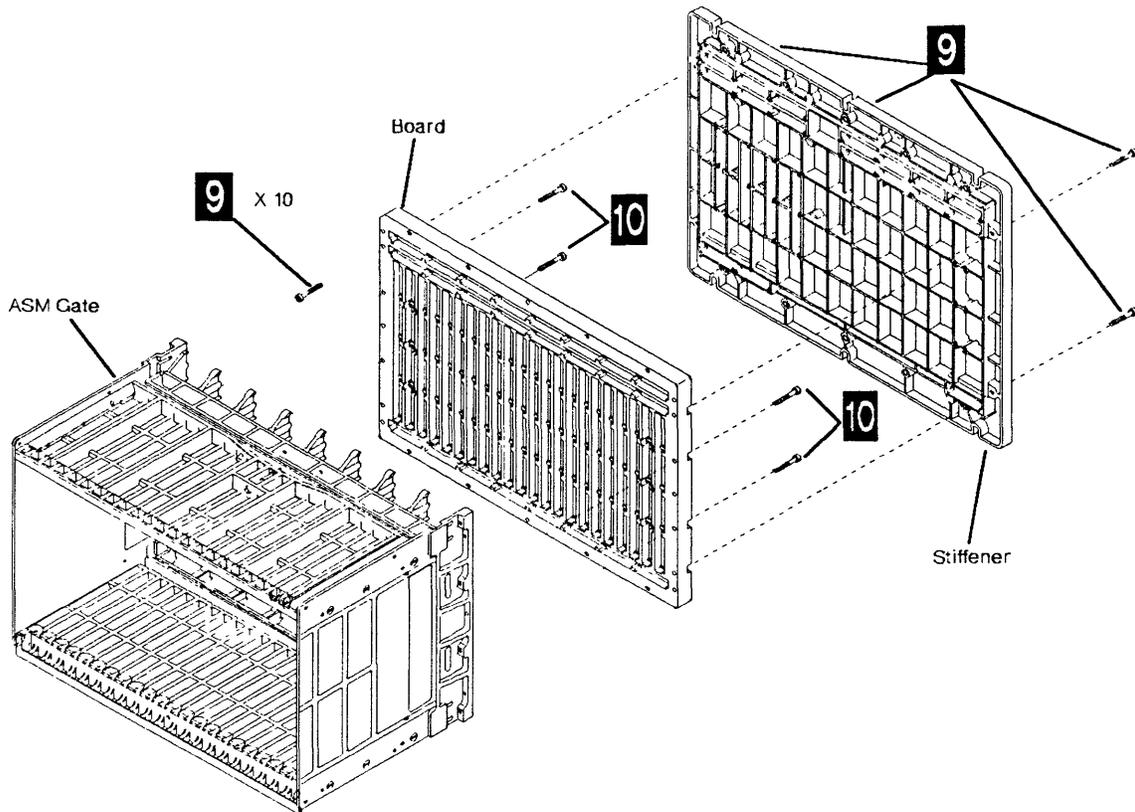

Figure 4-104. Basic Assembly 2
28. Remove the 14 screws **9** which hold the stiffener to the board. Refer to Figure 4-104, take away the stiffener.
29. Remove the 4 screws **10** which hold the board to the ASM gate. Refer to Figure 4-104, remove the board.
1. Place the new board on the ASM gate and fasten it with the 4 screws. **16**. Refer to Figure 4-104 on page 4-75.
2. Install the stiffener on the board and fasten it with the 14 screws. **9**. Refer to Figure 4-104 on page 4-75.